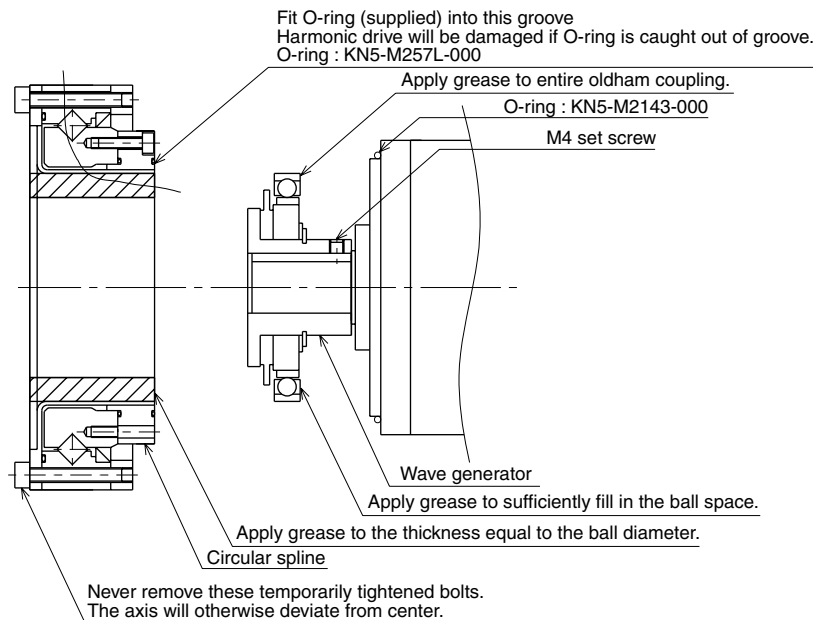

Fig. 5-45
- 8) Remove the wave generator from the motor shaft. The wave generator is secured with an M4 set screws. (See Fig. 5-45.)
- 15) Fit an O-ring (supplied with the harmonic drive) coated with harmonic grease into the O-ring groove on the new harmonic drive. (See Fig. 5-45.)
- 17) Apply harmonic grease to the new wave generator and flexible spline. See Fig. 5-45 for applying grease properly.
- 18) Fit the wave generator onto the motor shaft, and fully insert it against the motor. Then, apply small amounts of “Screw Lock” to the M4 set screw (1 piece) you removed earlier and tighten it to secure the wave generator. (See Fig. 5-45.)